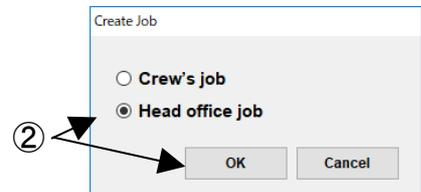

Fig.11-9 Create job screen
- (2) "Create job screen" (Figure 11-9) will be displayed, select "Head office job" and press the OK button.
- (3) And subsequent operations are the same as 11.2-1 (3) to (7).